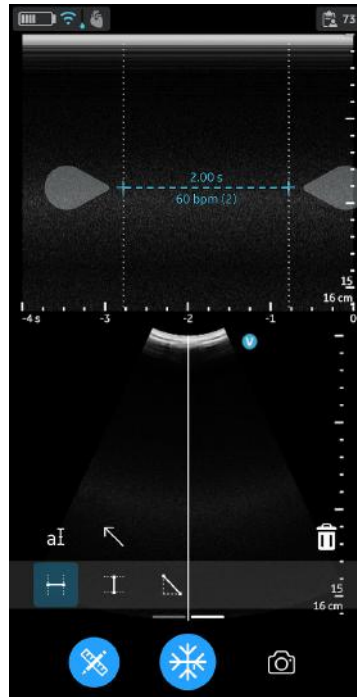

Figure 5-41. Time interval - M-mode
4. The system displays the time measurement and the corresponding calculated heart rate. The number of beats used for the heart rate calculation is listed with the calculated heart rate. Example 60 bpm (2) refer the Figure 5-41